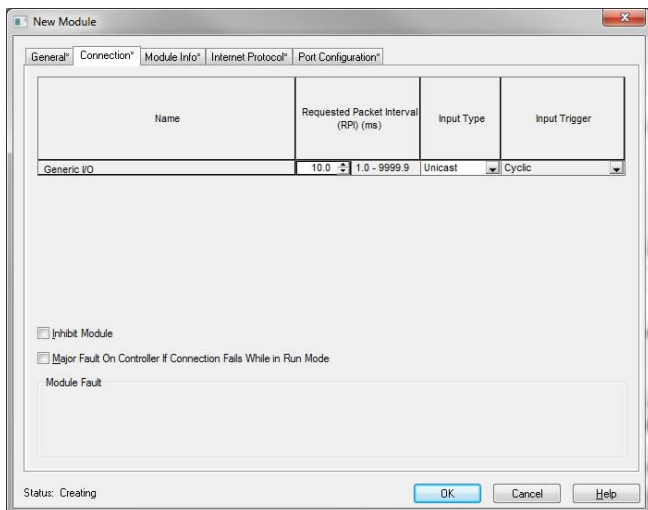

Figure 33: AOP New Module Properties Connection Tab
- 13) Click on the "Connection" tab. Refer to Figure 33.